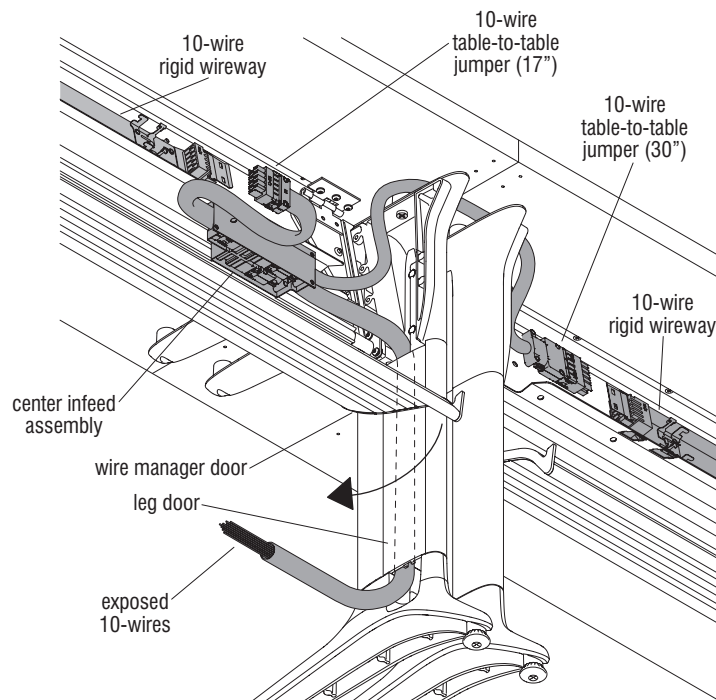

Figure 8
3. Open the wire manager door of each table and swing the door of the table accepting the infeed down past the leg until it clears the leg door. Open the leg door exposing the two channels in the leg. The leg channel that is closest to the front of the leg is the vertical electrical raceway (Figure 8).
4. Place the center infeed assembly up into the horizontal raceway and run the exposed 10-wire ends of the center infeed assembly down the front vertical electrical raceway in the leg as illustrated (Figure 8).